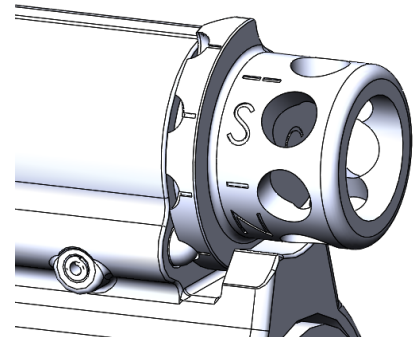

Figure 56: Gas Valve on Setting "N"
CAUTION: Before reassembling the bolt carrier group, ensure you have the correctly chambered extractor for the conversion kit you intend to install (Figure 56). Failure to comply can cause malfunctions, internal damage, or a complete failure of the firing cycle.
2. Install the gas valve in the front of the gas block with the firing condition rib at the 12 o'clock position, then rotate it until the detent clicks into the desired firing condition setting. (Figure 56) Use a punch tool to depress the detent to allow initial rotation.